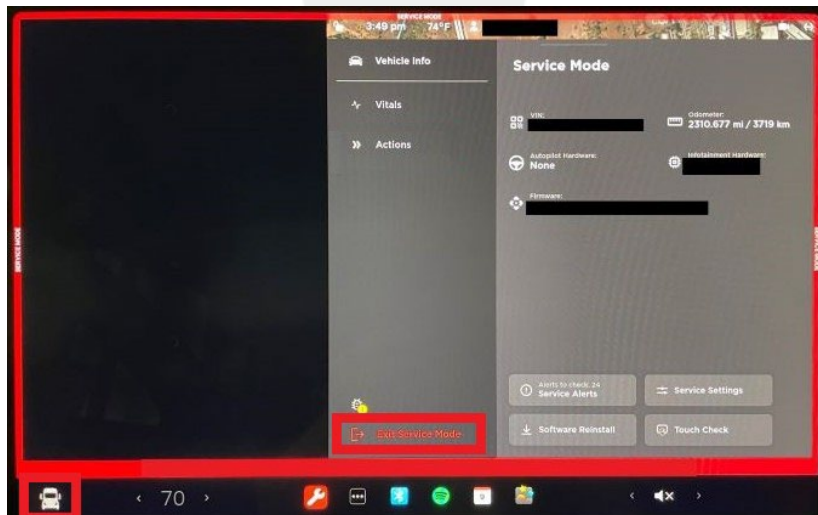

Figure 18
8. On the RH touchscreen, touch **Controls** (vehicle icon) > **Exit Service Mode** to exit Service Mode (Figure 18).